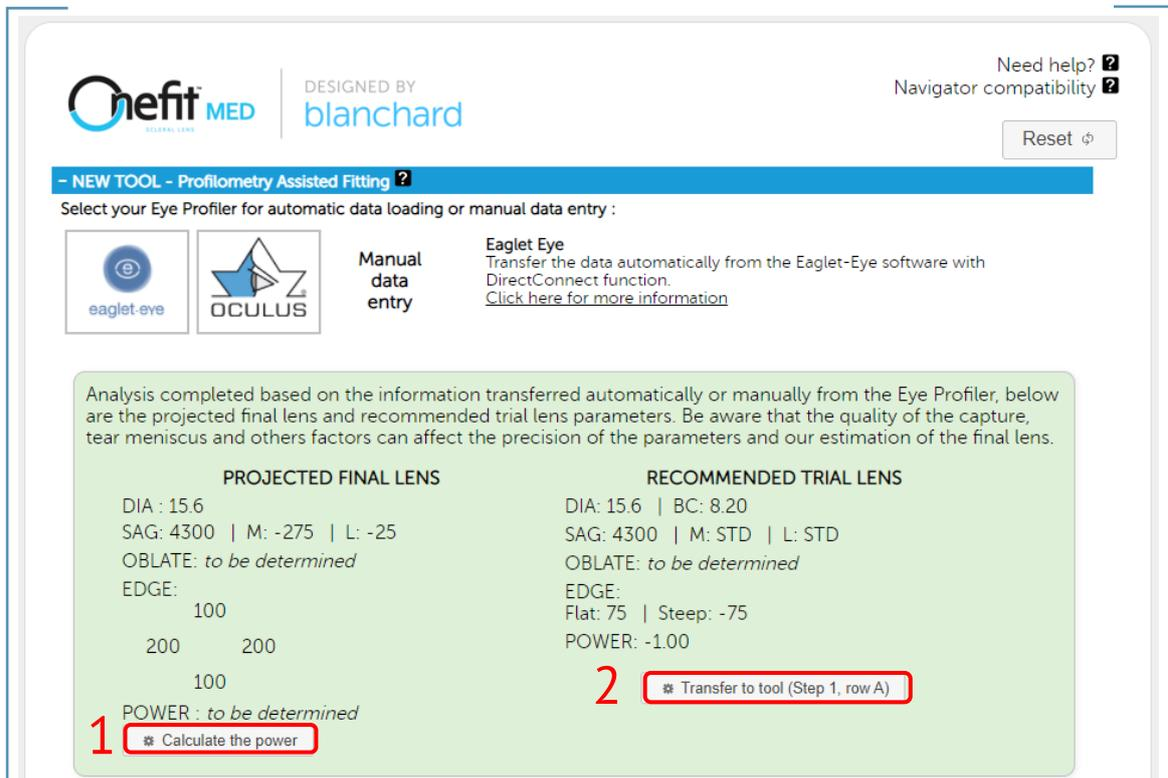

Figure 1
2) Click now on **Transfer to tool (Step 1, row A)** to continue (see Figure 1). If you are using a *Trial Lens* instead of calculating the *Power*, only the information about the recommended trial lens will be transferred into row A.